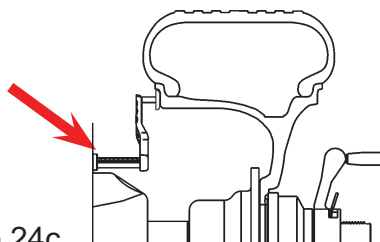

Figure 24c
- Move the distance SAPE Arm to touch the inner edge of the wheel where weights are to be placed and observe the reading on the scale of the distance SAPE. See Figure 24c. Press manual Wheel **Offset** button (O) followed by selecting the +/- keys until value is displayed in the display window.